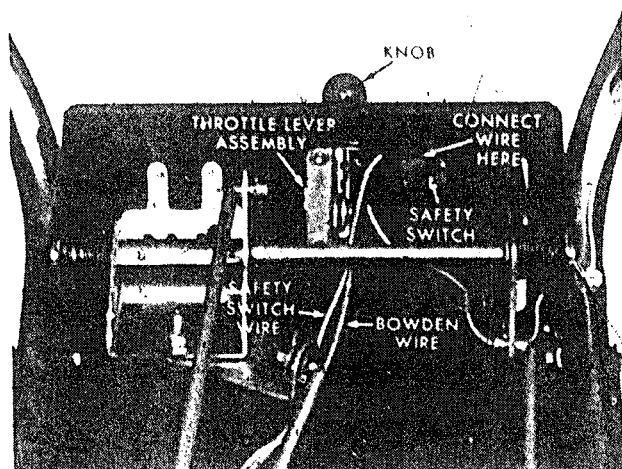

Figure 2
4. Attach the throttle lever assembly with two #10 24 x 5/8" capscrews and locknuts to the underside of the control panel as shown in Fig. 2. Be sure there are no kinks in the Bowden wire. Tap the knob onto the throttle lever.